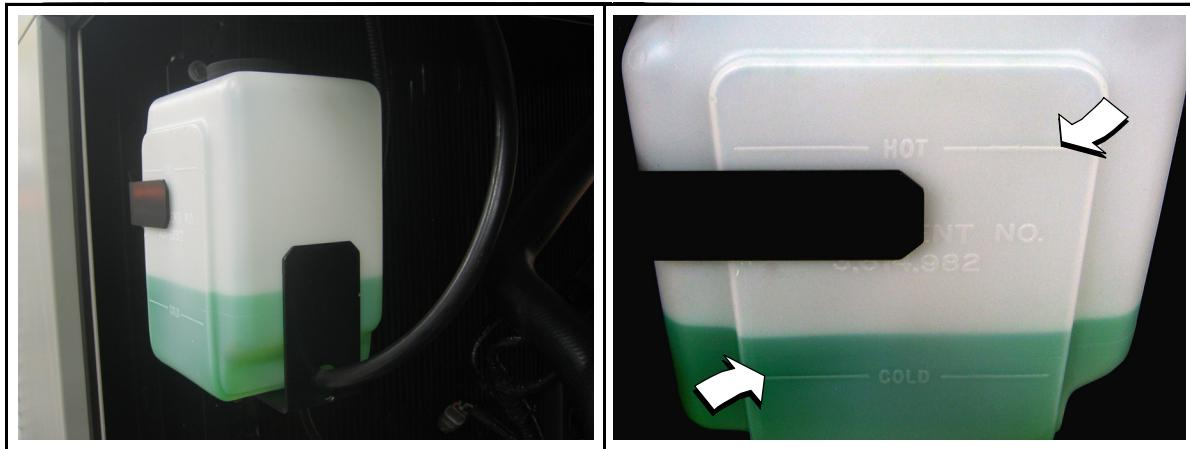

Figure 5-6. Coolant Overflow Reservoir
- Verify that the coolant level is between the HOT and COLD marks on the overflow reservoir. See Figure 5-6.